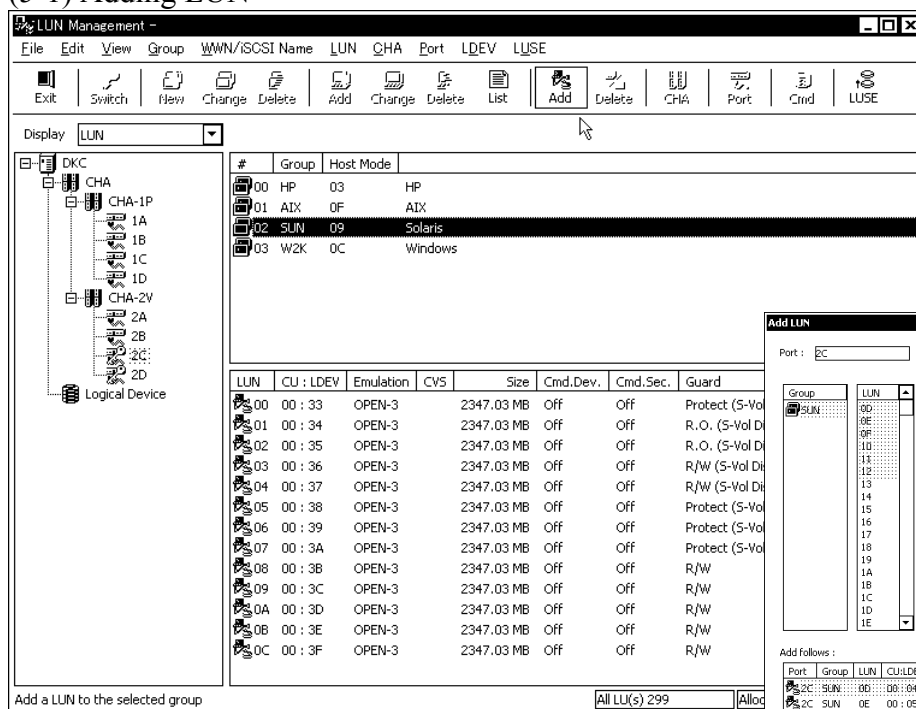

Figure 5.1.1 Main Window
- ① Change the Display to “LUN.”
- ② Select (CL) a group to which a LUN is to be added from the upper right list.
- ③ Select (DR) [Add] from the [LUN] menu in the Main window (Figure 5.1.1).
- ⑤ When the [OK] button is selected (CL), items displayed in the “Add follows” list is newly registered and the window is changed to the Main window (Figure 5.1.1).
Details of the Main Window(Figure 5.1.1) and the other windows are shown on the following page.